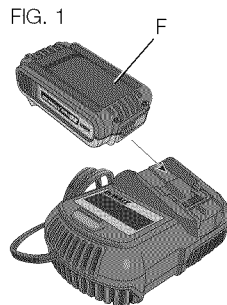

FIG. 1
Charging Procedure (Fig. 1)
2. Insert the battery pack (F) into the charger, as shown in Figure 1, making sure the pack is fully seated in charger. The red (charging) light will blink continuously, indicating that the charging process has started.